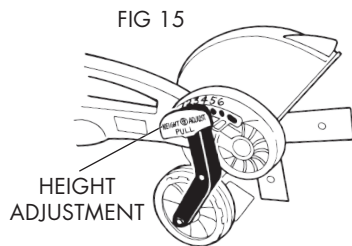

FIG 15
3. Adjust blade height (Fig. 15) and with new blade, try No.2 position.